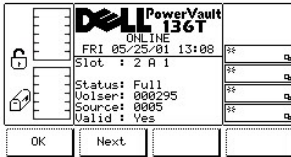

Figure 15. Status > Library > Slot > Slot Status Dialog
When OK is selected, the Slot Status Dialog is displayed. See Figure 15. This screen displays the current slot physical and statistical characteristics.
- 1 If the button beneath the **Next** is selected, the Slot Status Dialog is displayed. Refer to Figure 15.